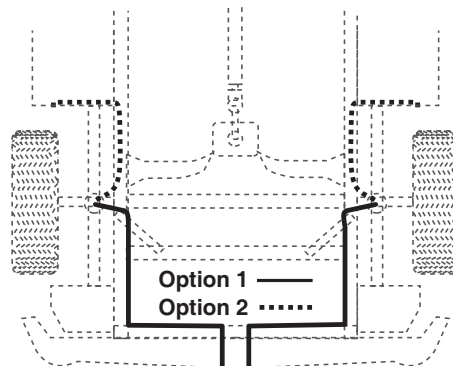

fig. 12
6. Route the air line along the frame to the air fitting on the air spring (Fig. 12). Keep AT LEAST 6" of clearance between the air line and heat sources, such as the exhaust pipes, muffler, or catalytic converter. Avoid sharp bends and edges. Use the plastic tie straps to secure the air line to fixed, non-moving points along the chassis. Be sure that the tie straps are tight, but do not pinch the air line. Leave at least 2" of slack to allow for any movement that might pull on the air line (Fig. 12).